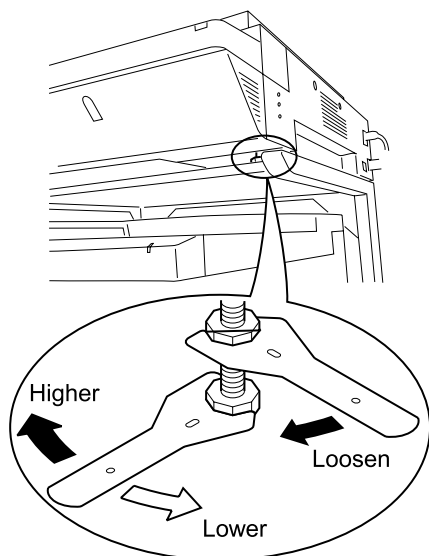

Figure 29. Adjusting horizontal registration
- 4 If the lines do not intersect at 90-degree angles or are distorted (check against the corner of a piece of paper), adjust the horizontal registration for the copy module as shown in figure 29. Use the adjustment wrench FY9-1027-000, which ships with every unit and which installers are instructed to place on the stand behind the print engine. (Normally, this adjustment is not needed, as adjustments are made at the factory.)